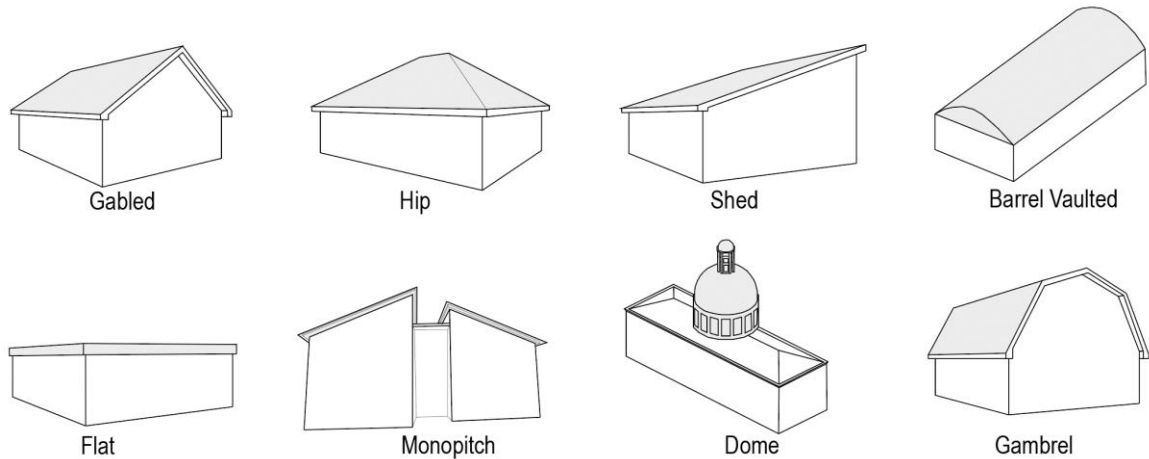

Figure 19: Roof Forms
b. For buildings longer than 100', there shall be a minimum of one (1) usable entrance every full 50' of frontage along the primary street and sidewalk.
(4) Roofs.
c. Permitted roof forms include gabled, hipped, shed, barrel vaulted, flat, mono-pitch, and domes, though the selected roof form must be consistent with the architectural style of the building. Applied and partial (less than 3 sides) Gambrel roofs are not typically permitted but may be allowed at the discretion of the Administrator or Design Review Body based on compatibility with the surrounding context (Figure 19).